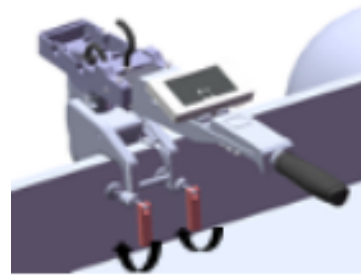

Figure 2-2
2. Rotate the small red handle of the locking clamp to tighten the bolts. Refer to Figure 2-2